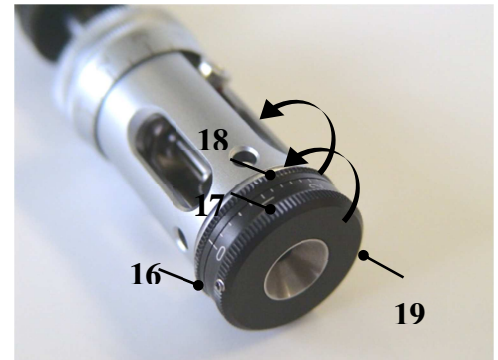

Fig. 17 Loosen centering unit
- Loosen nut **(18)** and centering scale **(17)** together. **(Fig. 17)**